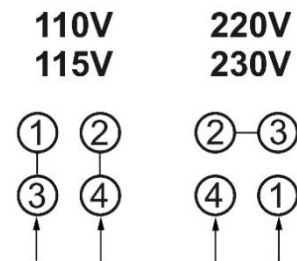

Figure 6-2: voltage conversion
1. Open main motor junction box cover, and change leads based on wiring diagram inside cover. This diagram is also shown in Figure 6-2. (NOTE: In case of discrepancy, diagram on machine takes precedence.) Reinstall cover.
2. (**Model HVBS-10DMWC only:** Remove coolant pump junction box cover, and change incoming leads for coolant pump, based on diagram shown in Figure 6-2. Reinstall cover.)